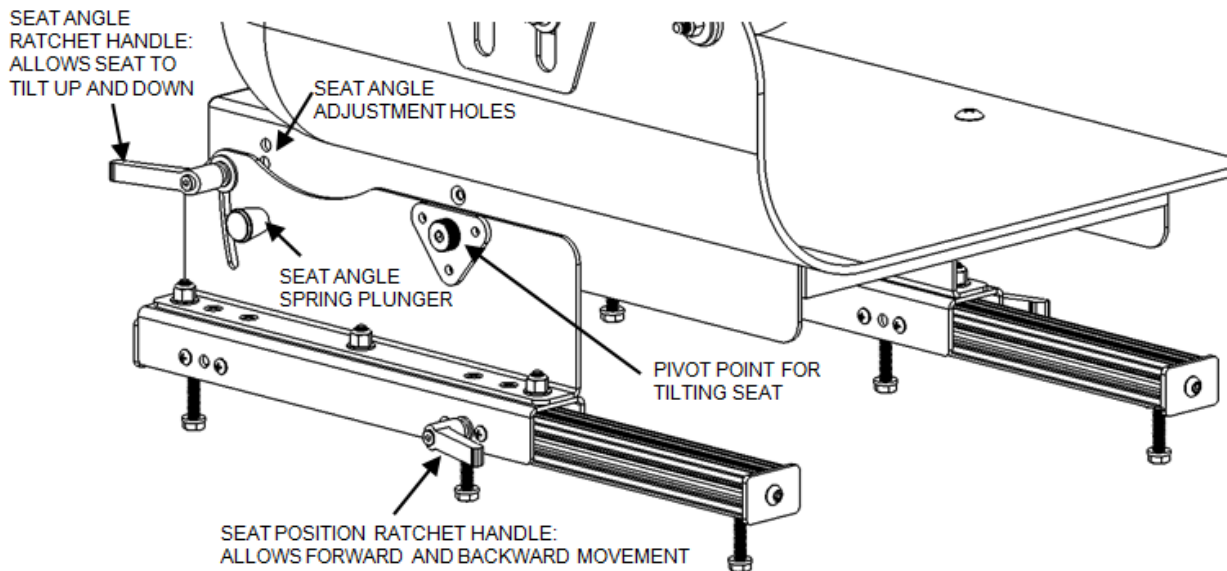

Figure 8. Controls for adjusting seat position and angle (dump) of the seat bucket.
1. **Seat position forward and back:** (Figure 8)
2. **Angle (dump) of the seat base:** (Figure 8)